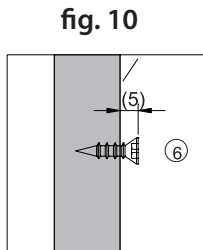
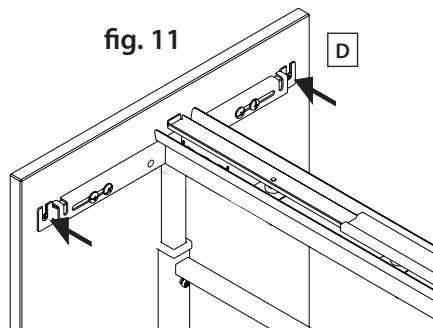
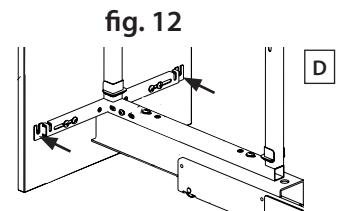

fig. 10
fig. 11
fig. 12
14) Now you are ready to hang the door. Drive two screws (#6) into only the top two pilot holes per figure 10. Position the door so the screws fit into the T type door mount bracket (figure 11). Double check to make sure the door is in the correct position, using two #6 screws affix bottom T door mount bracket to door (figure 12) and tighten top screws.